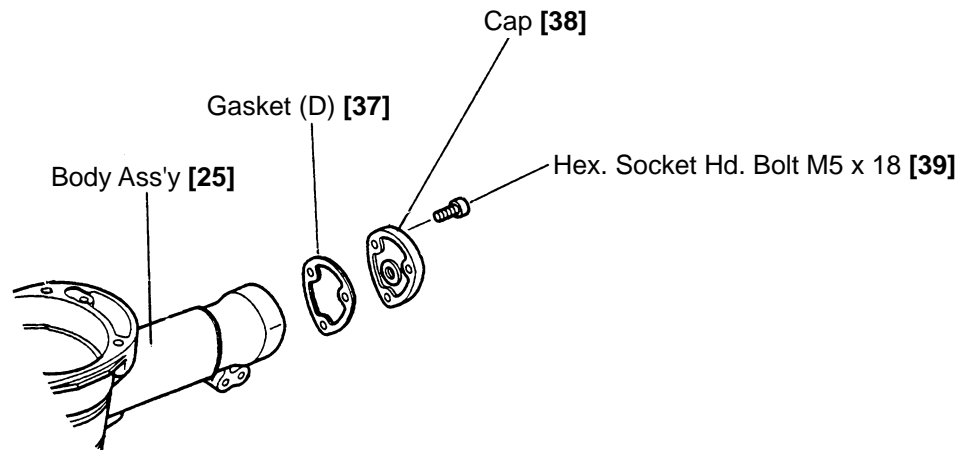

Fig. 22
(4) Disassembly and reassembly of the cap (See Fig. 22.)